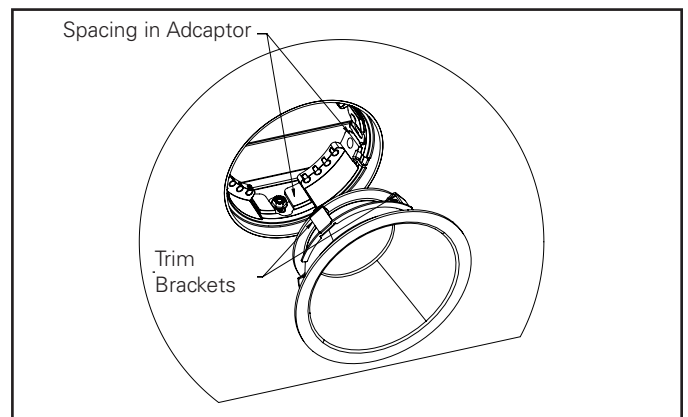

Figure 21.
8. In case of tall trim for downlight align trim such that trim bracket does not interfere with adapter (Refer Figure 21)